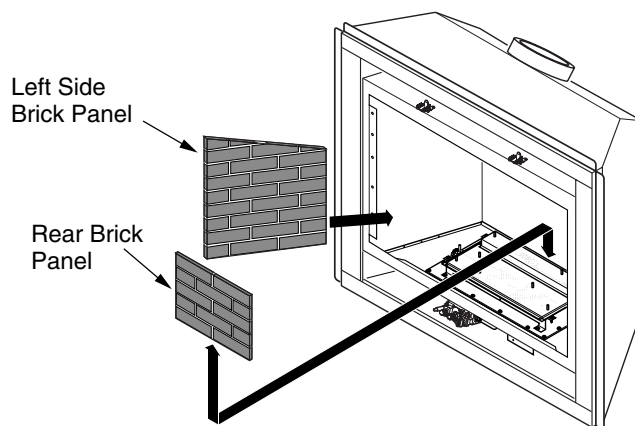

Figure 43 - Installing Rear, Left and Right Side Brick Panels
5. Install rear brick panel first. Rest bottom edge of panel on back edge of burner assembly (see Figure 43).
6. Install left side brick panel by sliding it between the burner assembly and side of firebox (see Figure 43).